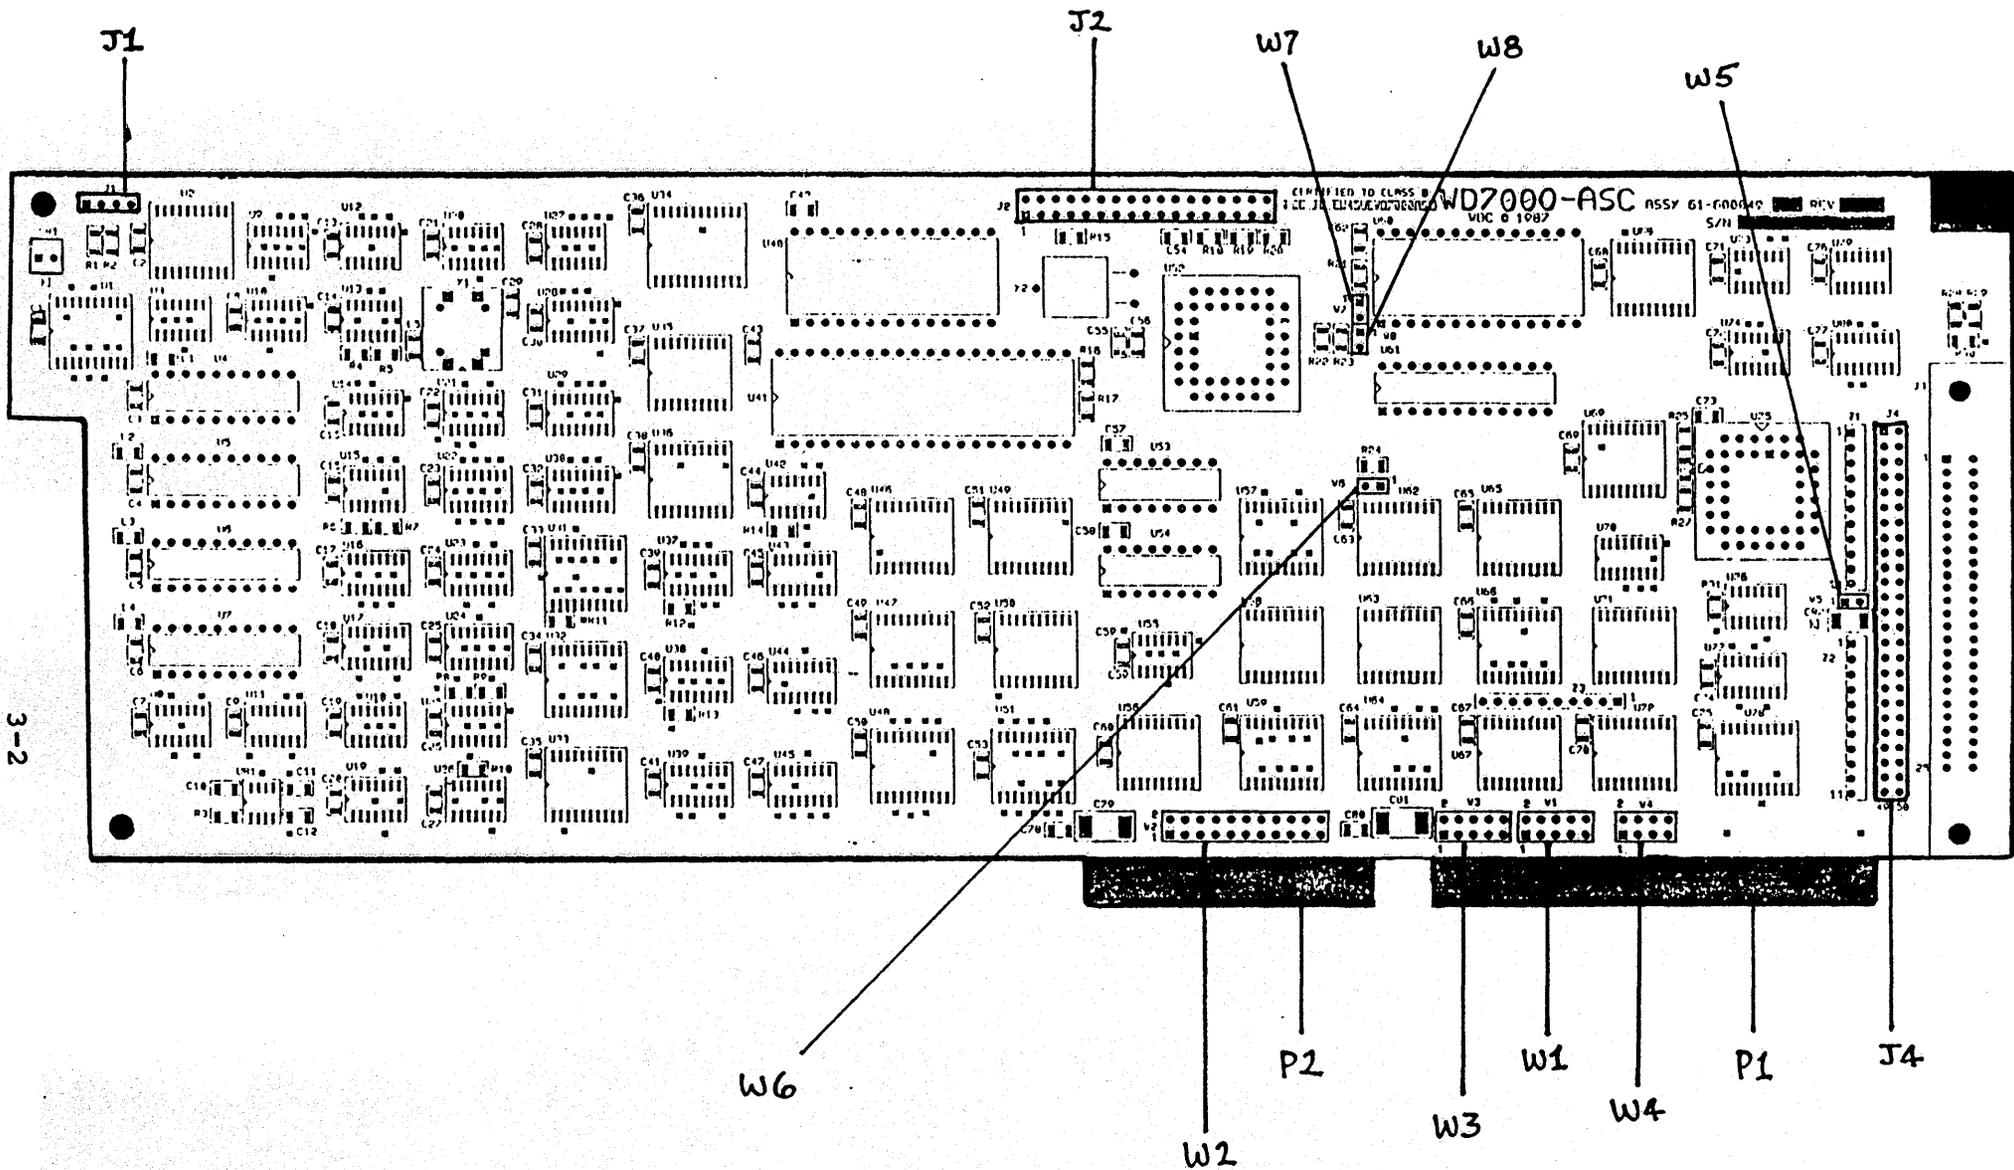

FIGURE 3-1. WD7000-ASC BOARD CONNECTORS AND JUMPER LOCATIONS
3. Refer to Figure 3-1, then connect the 50 pin SCSI interface connector to J4 and the 34 pin disk drive connector to J2. Connect Host furnished power source to J1.